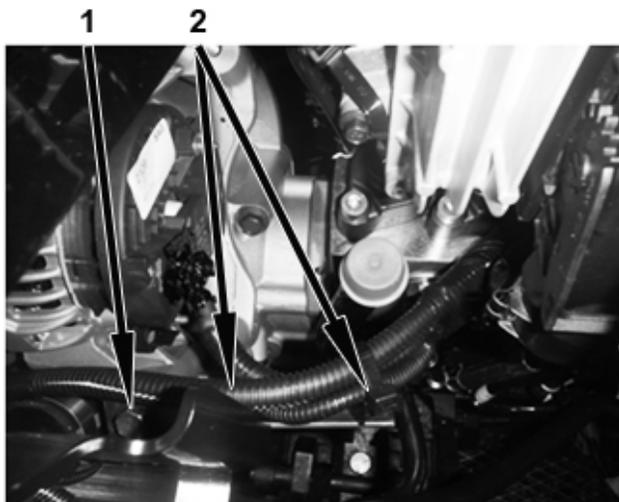

Figure 29
19. Position extension away from any rub points (other bracket or steering hose) and tighten rear alternator-mounting bolt to specification. Tighten cable tie strap and cut off extra cable tie strap end (Figure 29).